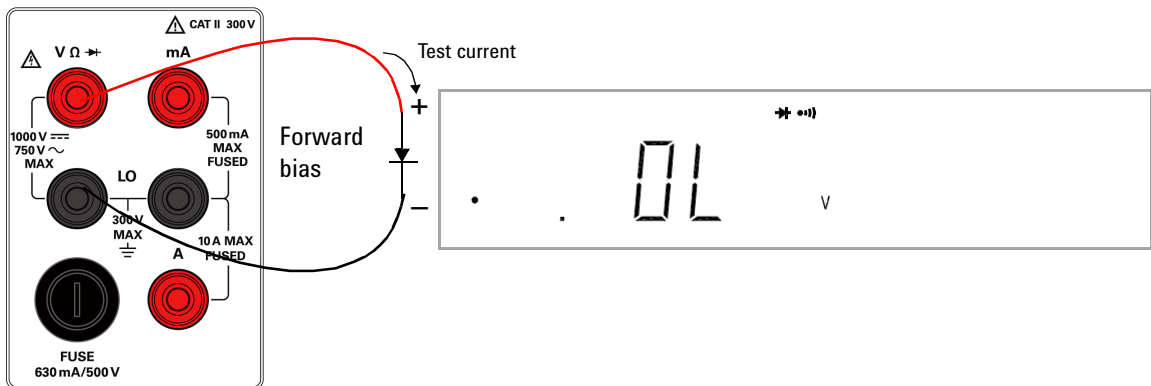
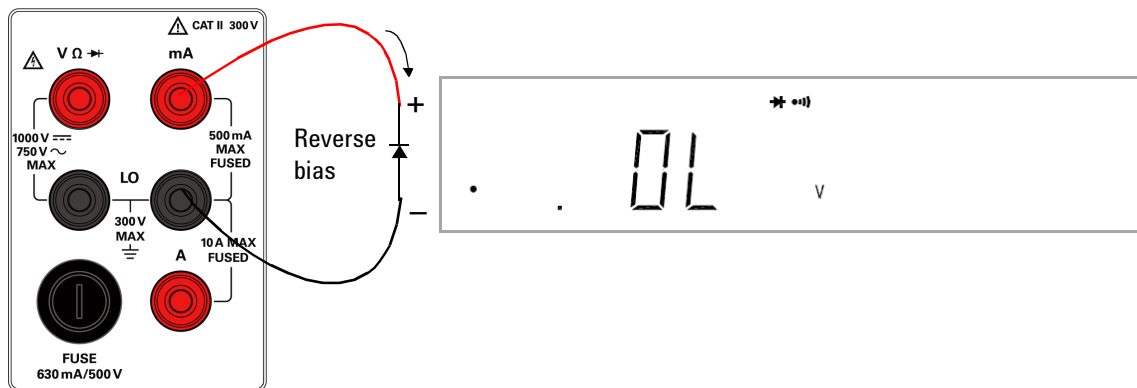

Figure 2-7 Forward-biased diode/continuity test terminal connection and display
Figure 2-8 Reverse-biased diode/continuity terminal connection and display
- 2 Connect the red and black test leads to the input terminal as shown in Figure 2-7 and Figure 2-8 respectively.
- 3 Connect the red test lead to the positive terminal (anode) of the diode and the black test lead to the negative terminal (cathode). Refer to Figure 2-8.
5 Reverse the probes and measure the voltage across the diode again (refer to Figure 2-8). Assess the diode according to the following guidelines: